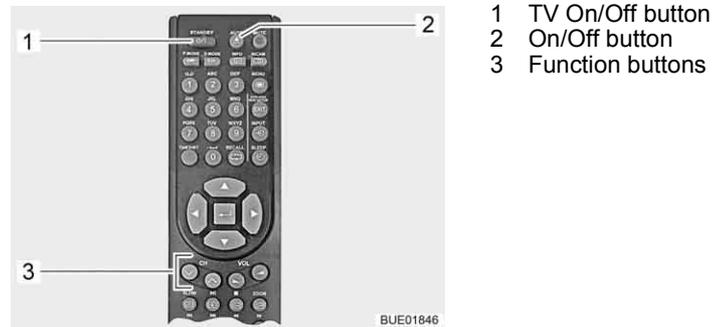

Fig. 22 Remote control
- Press the "On/Off" button (Fig. 22,2) on the remote control. The satellite antenna erects itself from the parked position.
- Use the function buttons (Fig. 22,3) to set the required transmitter. When the unit finds the satellite, the TV programme appears automatically.